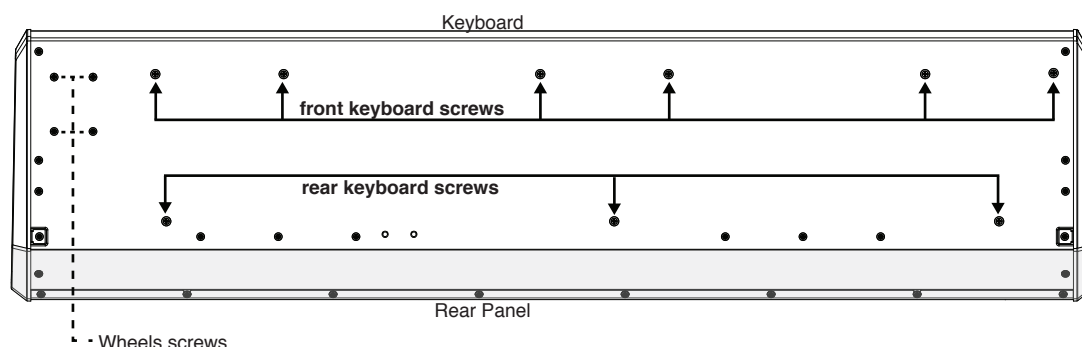

Figure 4-9 Wheels Assembly and Keyboard Assembly hardware locations
1. Refer to Figure 4-9. Slide the left front corner of the SP5-8 forward off of your work surface to access the four screws securing the Wheels Assembly to the bottom enclosure. Remove the four screws.
3. Refer to Figure 4-9.